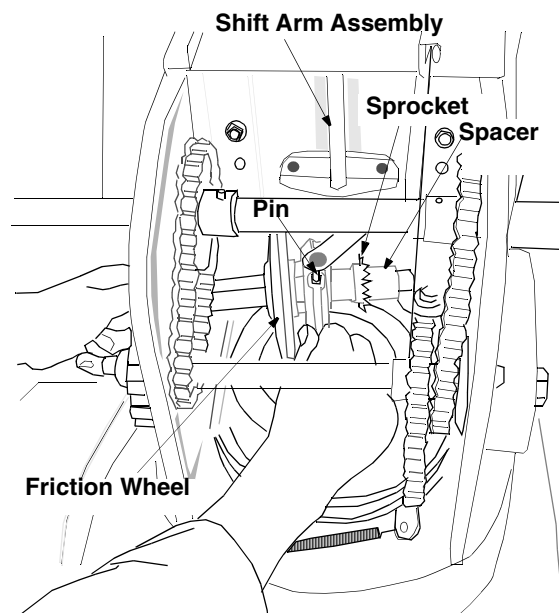

Figure 22
- Holding the friction wheel assembly as shown in Figure 22, slide the hex shaft out of the left side of the unit. The spacer on the right side of the hex shaft will fall and the sprocket should remain hanging loose in the chain.
- Insert the pin from the shift arm assembly into the friction wheel assembly and hold assembly in position. See Figure 22.